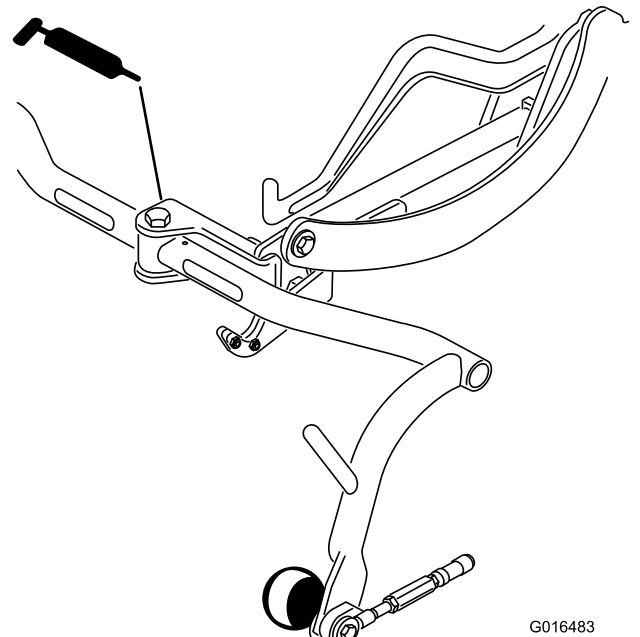

Figure 37
- Carrier frame pivot (3) Figure 37